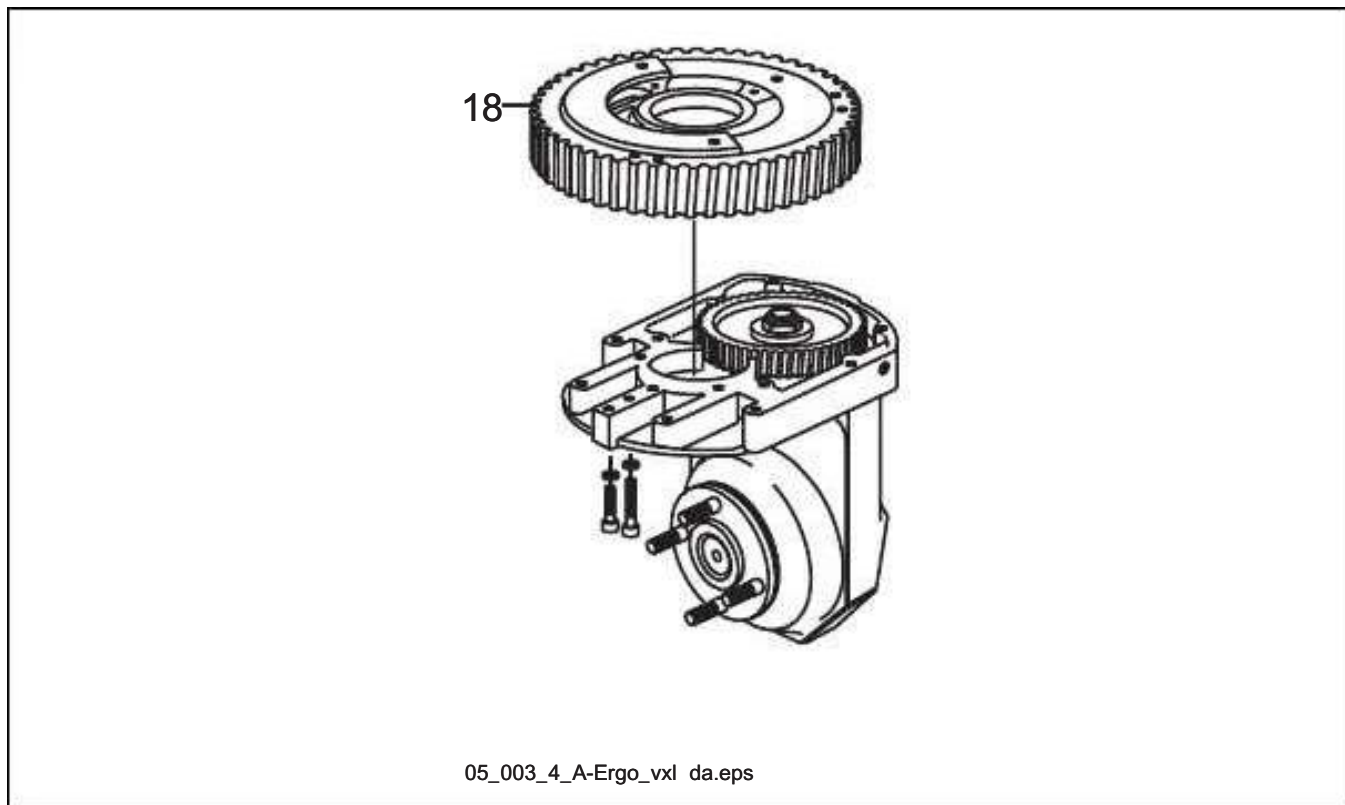

**Figure 5.5** Fit the guide wheel.
5. Fit the guide wheel (see figure 5.5)